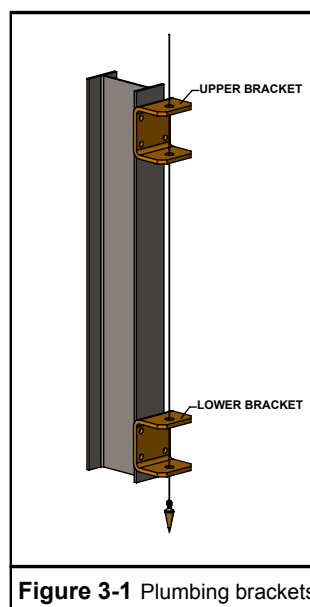

Figure 3-1 Plumbing brackets
- 3.2.5 Drill bolt holes for the TOP FITTING (Rear Half) and BOTTOM FITTING (Rear Half), and bolt them to supporting structure (COLUMN). Do not torque bolts until brackets are plumb. See **Figure 3-1**.